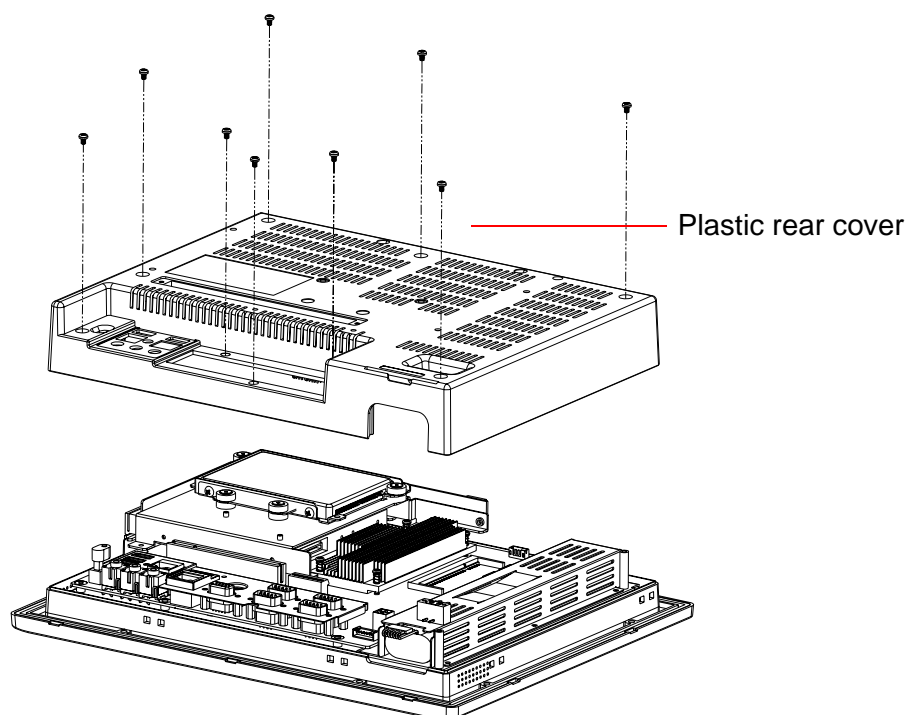

Figure 3.1 Installing primary 2.5" HDD
2. There is a metal brace which holds the HDD to the upper left-hand side of the metal shielding case. (See Fig. 3.1.)